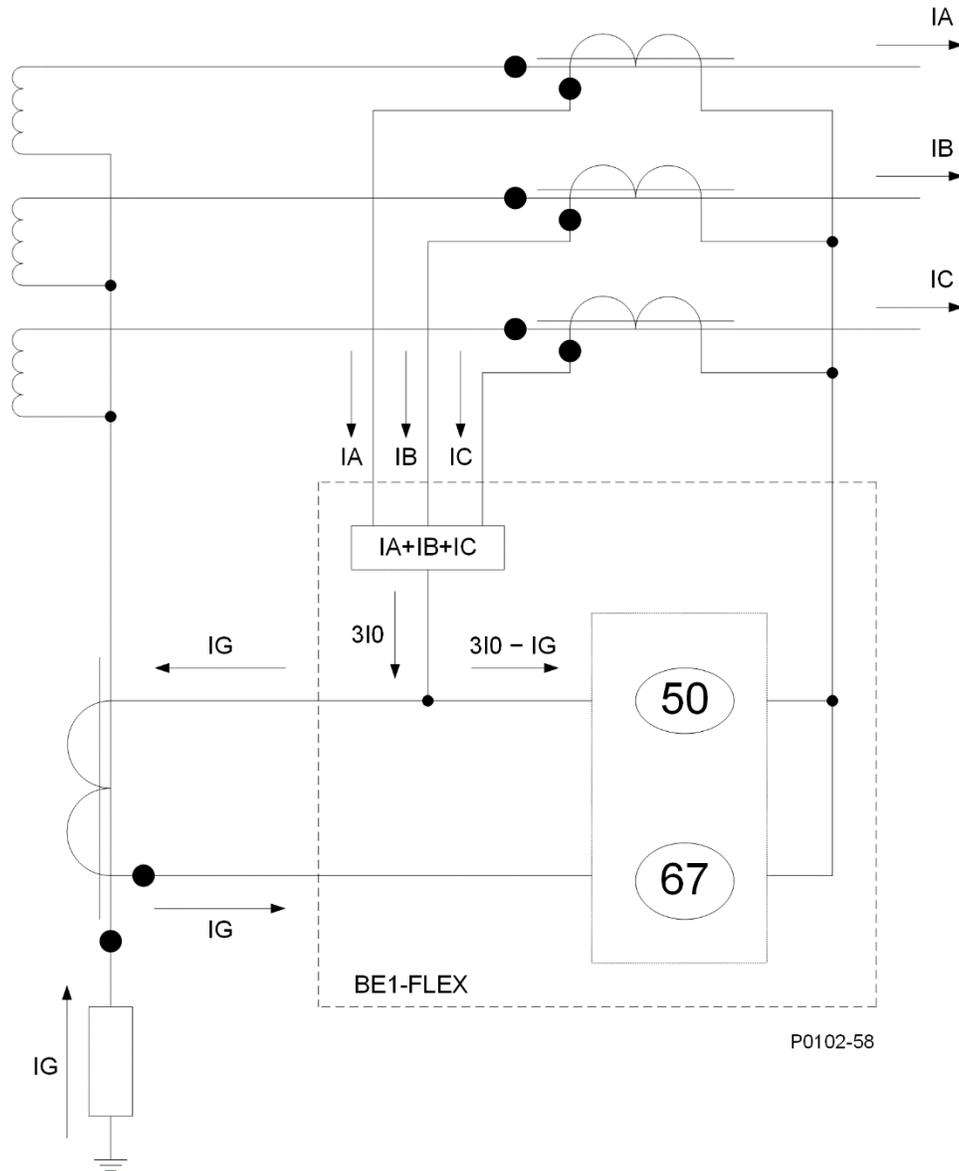

Figure 40-2. Current-Polarized Directional Scheme for BE1-FLEX CT Connection
Figure 40-2 shows the correct CT polarity to ensure proper I_{op} magnitude (50) and directionality (67) validation within the 87N with a CT Flip setting of “Yes”. With the assumed positive current direction, $3I_0$ and I_G are in phase for an internal fault and are out of phase for an external fault.